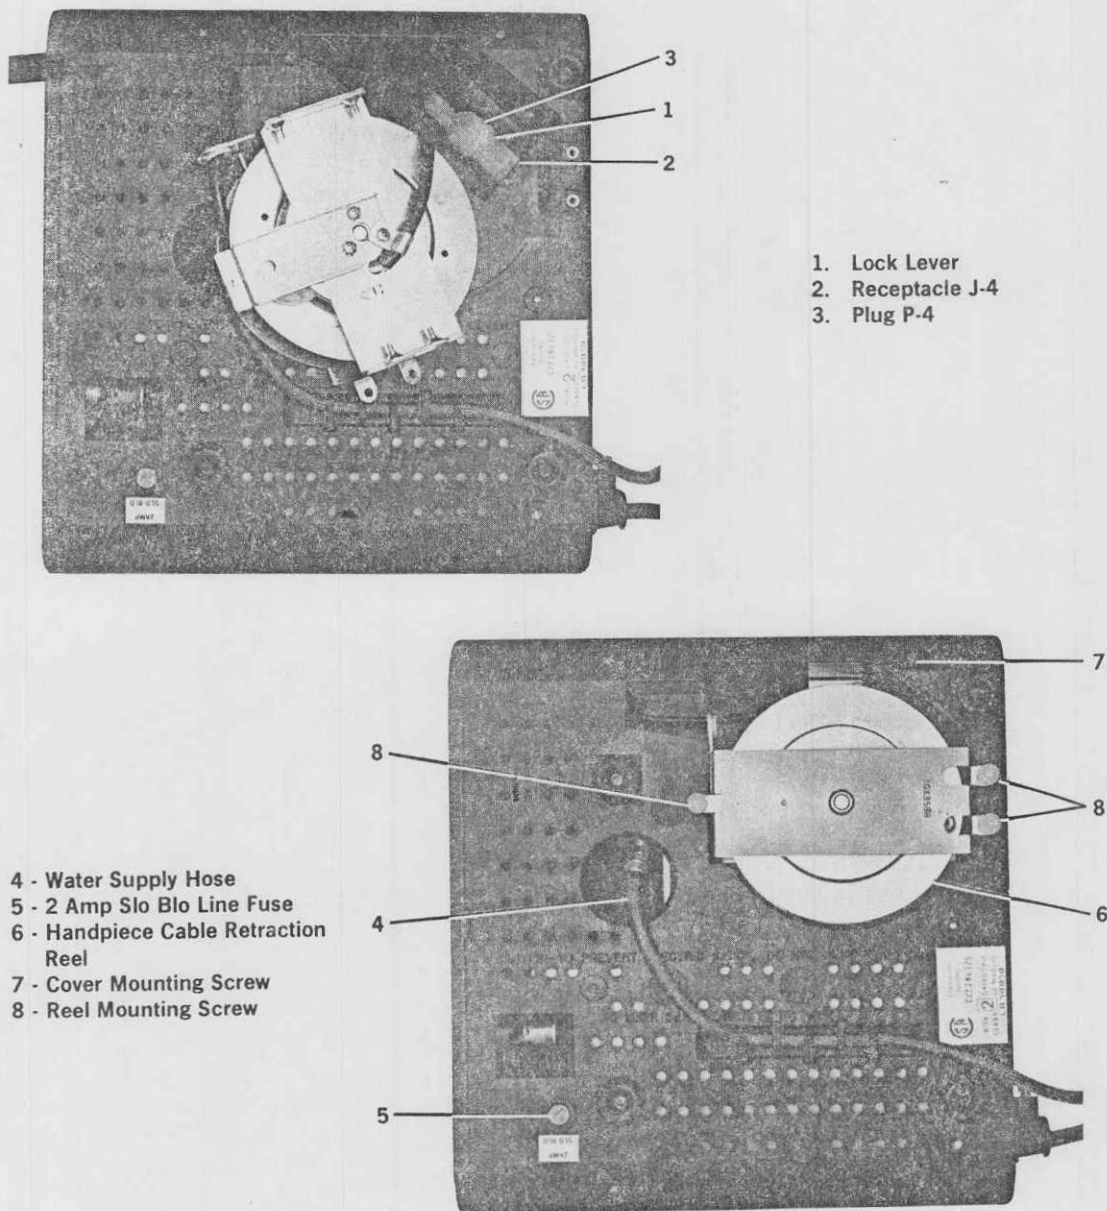

FIGURE 6. BOTTOM PANEL — U.S. MODELS SHOWN
One end of the water supply hose is attached to the unit at the factory (see Figure 6). The water supply to the unit should be limited to 30 psi minimum and 60 psi maximum pressure. It is recommended that a manual shut-off be installed in the water line to the unit so the water can be completely shut off when the office is unoccupied. Attaching the water hose from the unit to this line is accomplished using an adapter suitable for the installation. NOTE: A strainer is recommended for installation in the water supply to the unit. Immediately after the adapter is connected to the line, flush the adapter fitting of any debris created by the connection. With the adapter fitting flushed, connect the free end of the supply hose to the adapter fitting. Test the connection to make sure it is tight. If incoming water pressure is above 60 psi install a water pressure regulator in the main water supply line.
Check to make sure that the Slo Blo fuse cap (see Figure 6 item 2) on the bottom of cabinet is securely locked in place. Actuate the ON-OFF pushbutton to "ON". The "ON" indicator will light.
- a. Remove the three screws, Figure 6, item 8, and lift the retraction reel, item 6, to expose the connector plug.
- c. Disconnect the main water line, Figure 6, Item 4, from the regulator under the unit and the small water line from the solenoid valve inside the unit.